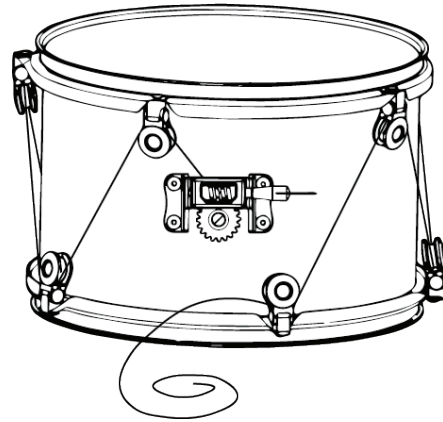

Fig. 2
5. Once the hoops are properly aligned (see Alignments and Assembly guides on previous pages), lace cable though pulley fixtures starting with the closest top pulley to the tuning knob, then the next pulley on the opposing hoop, until you have threaded through all of the pulleys (**Fig. 2**).